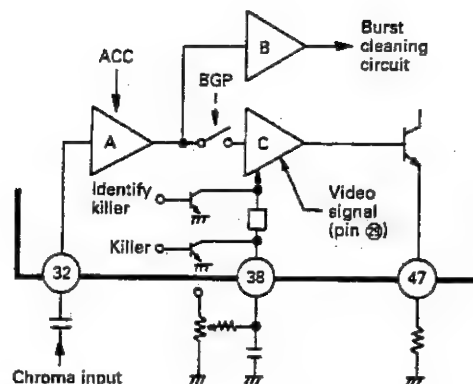

Figure 44-1.
Problem on the free-run frequency, one of the commonly discussed problems about the chroma circuit, is caused mostly due to roundabout or interference resulting from the arrangement of parts or leads on the IC. To keep the circuit in Fig. 44-1 free from this problem, it is required to arrange the parts and leads on the IC so as to make the least the turnout of CW at pin ④④ when it is given no chroma signal.
The main signal is processed in the chroma amplifier and also in the demodulator circuit described later. Fig. 44-1 is a block diagram of the chroma amplifier. The signal passing through the band pass filter, where only the chroma component is taken out, is supplied to pin ③② and amplified in the primary ACC amplifier (A).
The chroma signal going out of the ACC amplifier is then sent to the burst amplifier (B) or the colour control amplifier (C) in the next stage. The amplifier (B) and the amplifier (C) are shown independently in Fig. 44-1, but in actual cases most of their parts are co-used according to the design which makes the maximum gain of the amplifier (C) completely equal to the fixed gain of the amplifier (B).